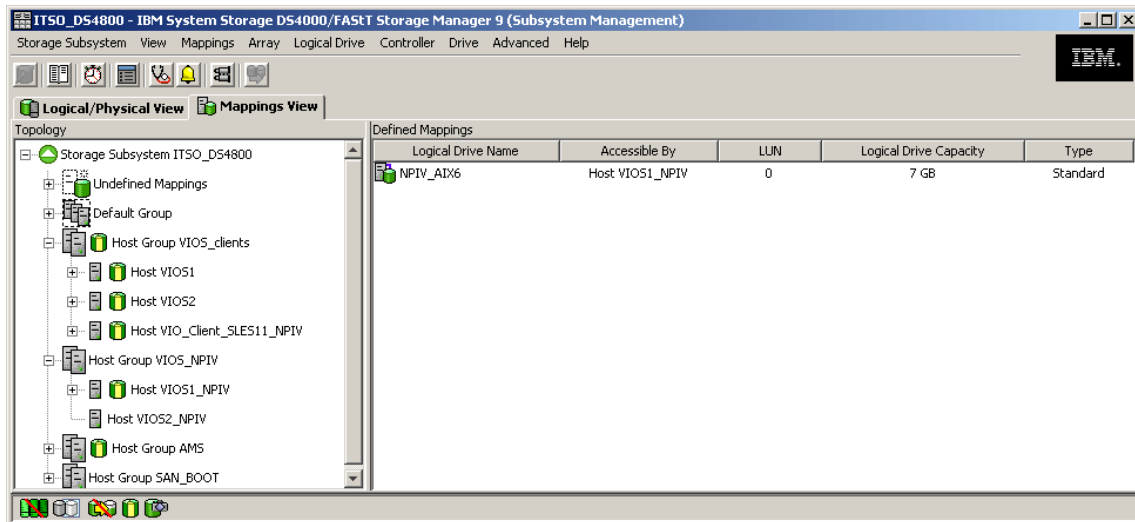

Figure 2-27 LUN mapping on DS4800
- c. After you have finished with the zoning, you need to map the LUN device(s) to the WWPN. In our example the LUNs named NPIV\_AIX61 is mapped to the Host Group named VIOS1\_NPIV, as shown in Figure 2-27.